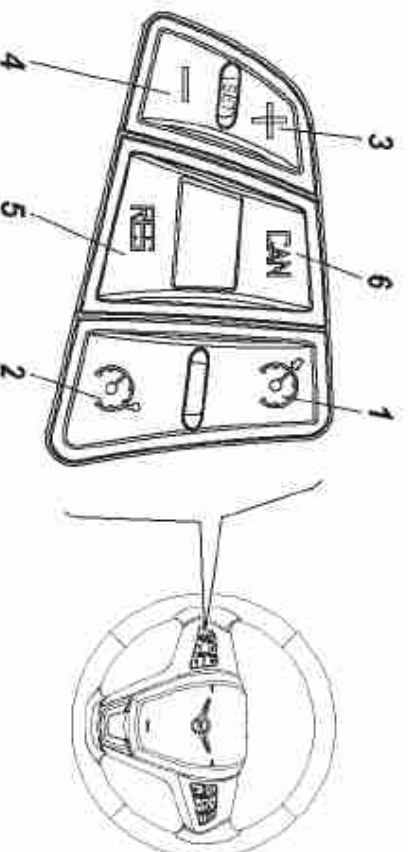

Fig. 3.18. Steering system keys unit of CC and OSL
CC and OSL functions are controlled with the following keys (Fig. 3.18):
CC function is turned on by pressing key 1 (Fig. 3.18). Repeated press of key 1 will cancel CC function.
Pressing key 2 (Fig. 3.18) when AC function is on, will deactivate CC function and will activate OSL function.
OSL function is turned on by pressing key 2 (Fig. 3.18). The repeated pressing of the key 2 will turn off the OSL function.